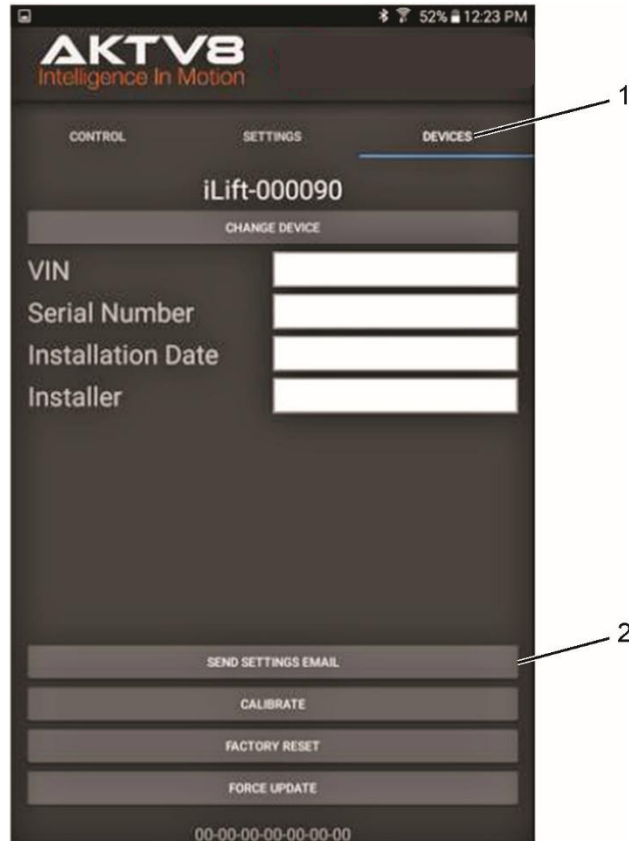

Figure 17
1. Touch or swipe to DEVICES tab (Figure 17, Item 1).
2. Touch SEND SETTINGS EMAIL (Figure 17, Item 2).